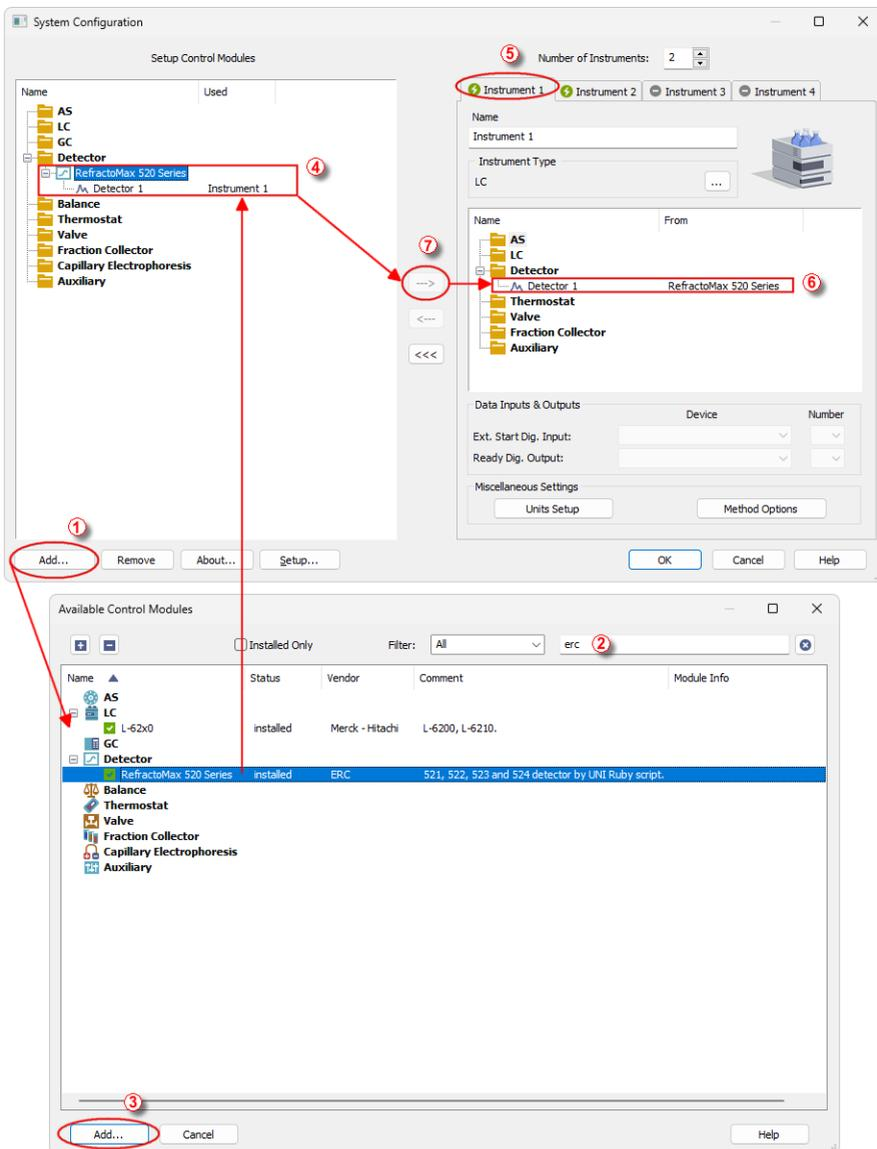

Fig. 3: How to Add ERC Refractomax 520 module
- Press the **Add** button (① on **Fig. 3** on pg. 4.) to invoke the **Available Control Modules** dialog.
- You can specify the search filter (②) to simplify the finding of the driver.
- Select the correct item and press the **Add** (③ on **Fig. 3** on pg. 4.) button. Each device with already created UNI profile should have its own item named accordingly in the **Available Control Modules** dialog.